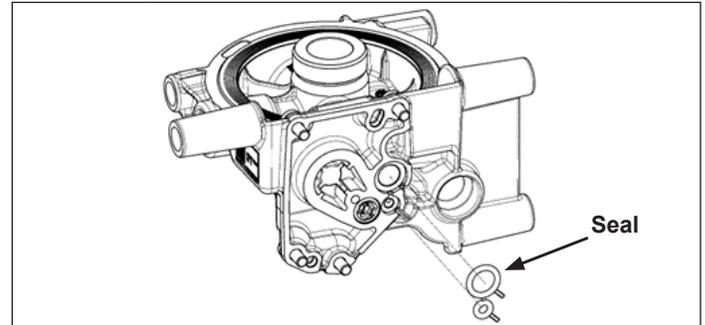

Figure 4 – Seal Installation
8. The air dryer can now be removed by pulling it away from the core module, taking care to not damage the alignment pins and the heater connection. Discard the existing seal (a new seal is provided in this kit). See Figure 4.